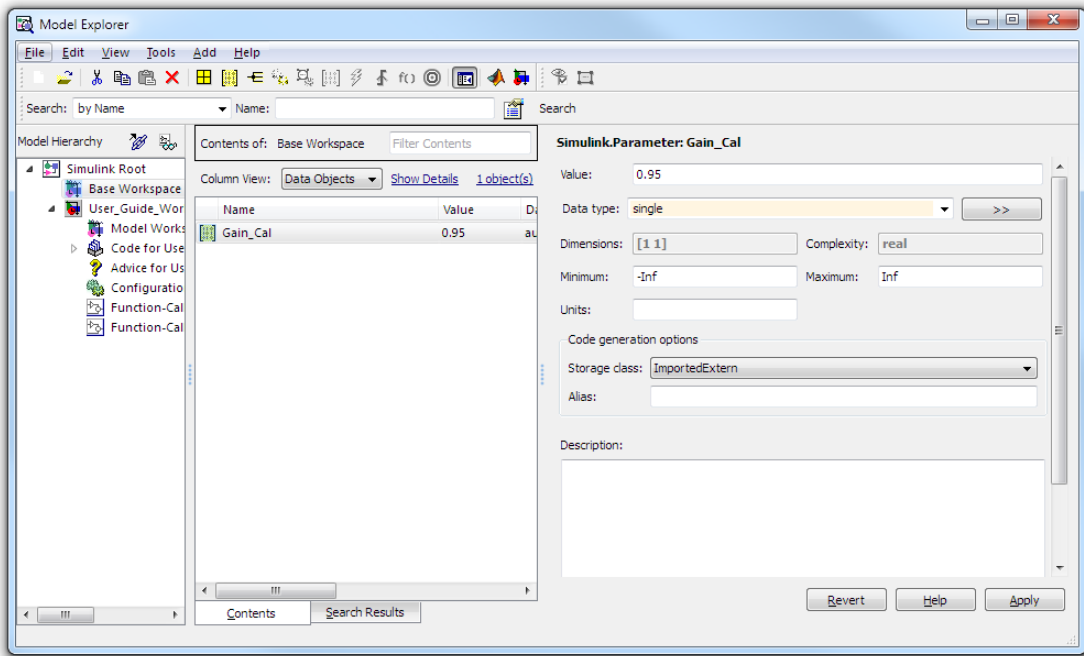

Figure 10.44: Configure a Simulink Parameter as a Calibration Parameter
- Set the Storage class to **ImportedExtern**, as shown in figure 10.44.